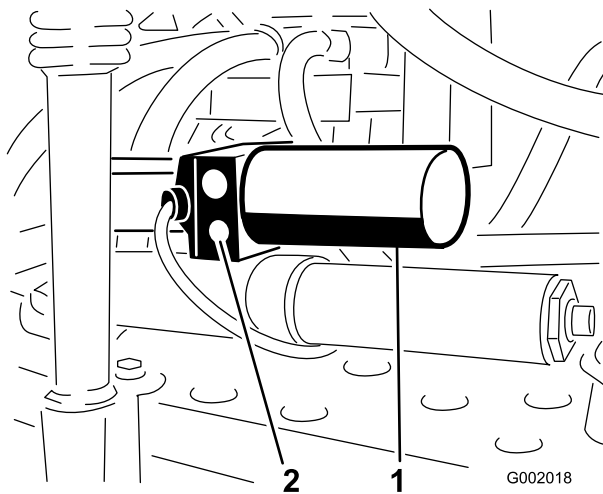

Figure 70
1. Locate the manual relief valve on the actuator for each boom. The manual relief valve is the smaller valve and is only on one side of the actuator body (Figure 70).